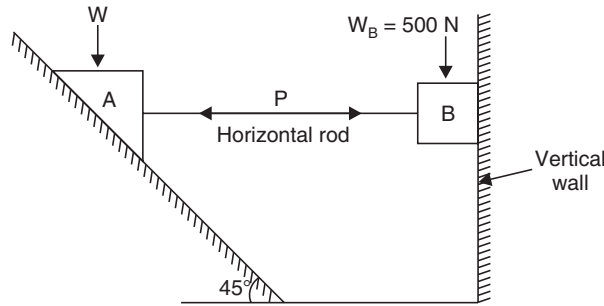

Fig. 6.38
**Example 6.19.** A block A weighing  $W$  newtons is placed on a rough inclined plane having  $\mu = 0.2$  and is held in position by means of a horizontal rod hinged to the block B which presses against a rough vertical wall having  $\mu = 0.4$  as shown in Fig. 6.38. If the block B weighs 500 N, find the minimum value of  $W$  consistent with equilibrium.